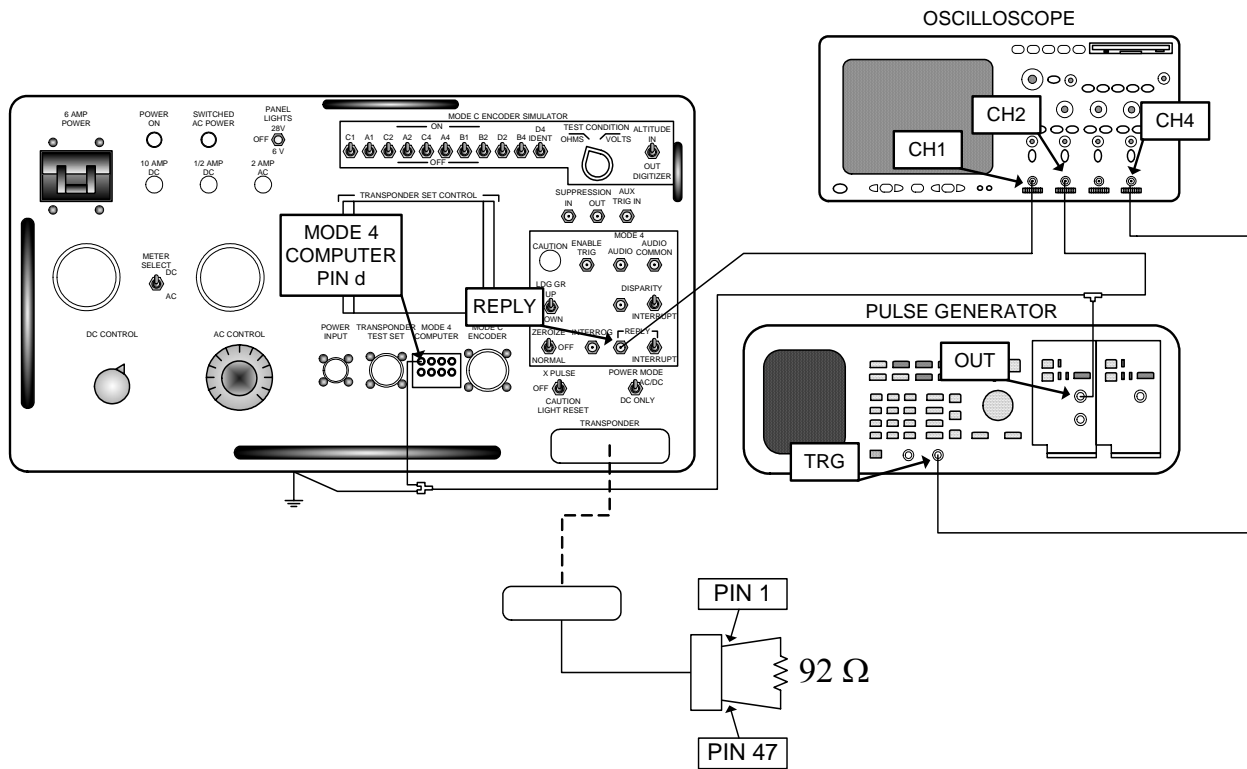

Figure 3. Pulse characteristics - equipment setup.
- (1) Connect equipment as shown in figure 3.
- (2) Set pulse generator controls for a positive (+) pulse output at a **1 kHz** rate.
- (3) Adjust pulse generator controls for a 0.5 μ s pulse 10 V in amplitude as indicated on oscilloscope **CH 2**.
- (4) Set **6 AMP POWER** circuit breaker to **ON** and adjust **DC CONTROL** for a 28 V dc indication on TI voltmeter.
- (5) Using standard measurement techniques, measure the pulse characteristics listed in table 4 for the **REPLY** pulse on **CH 1** of oscilloscope. Indications as observed on oscilloscope will be as specified in table 4.